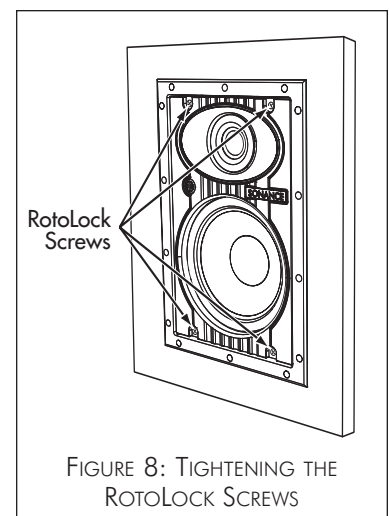

FIGURE 8: TIGHTENING THE ROTOLOCK SCREWS
5. Tighten the four screws on the front of the speaker baffle. The RotoLock clamps will automatically rotate into position and begin clamping the speaker (*Figure 8*).